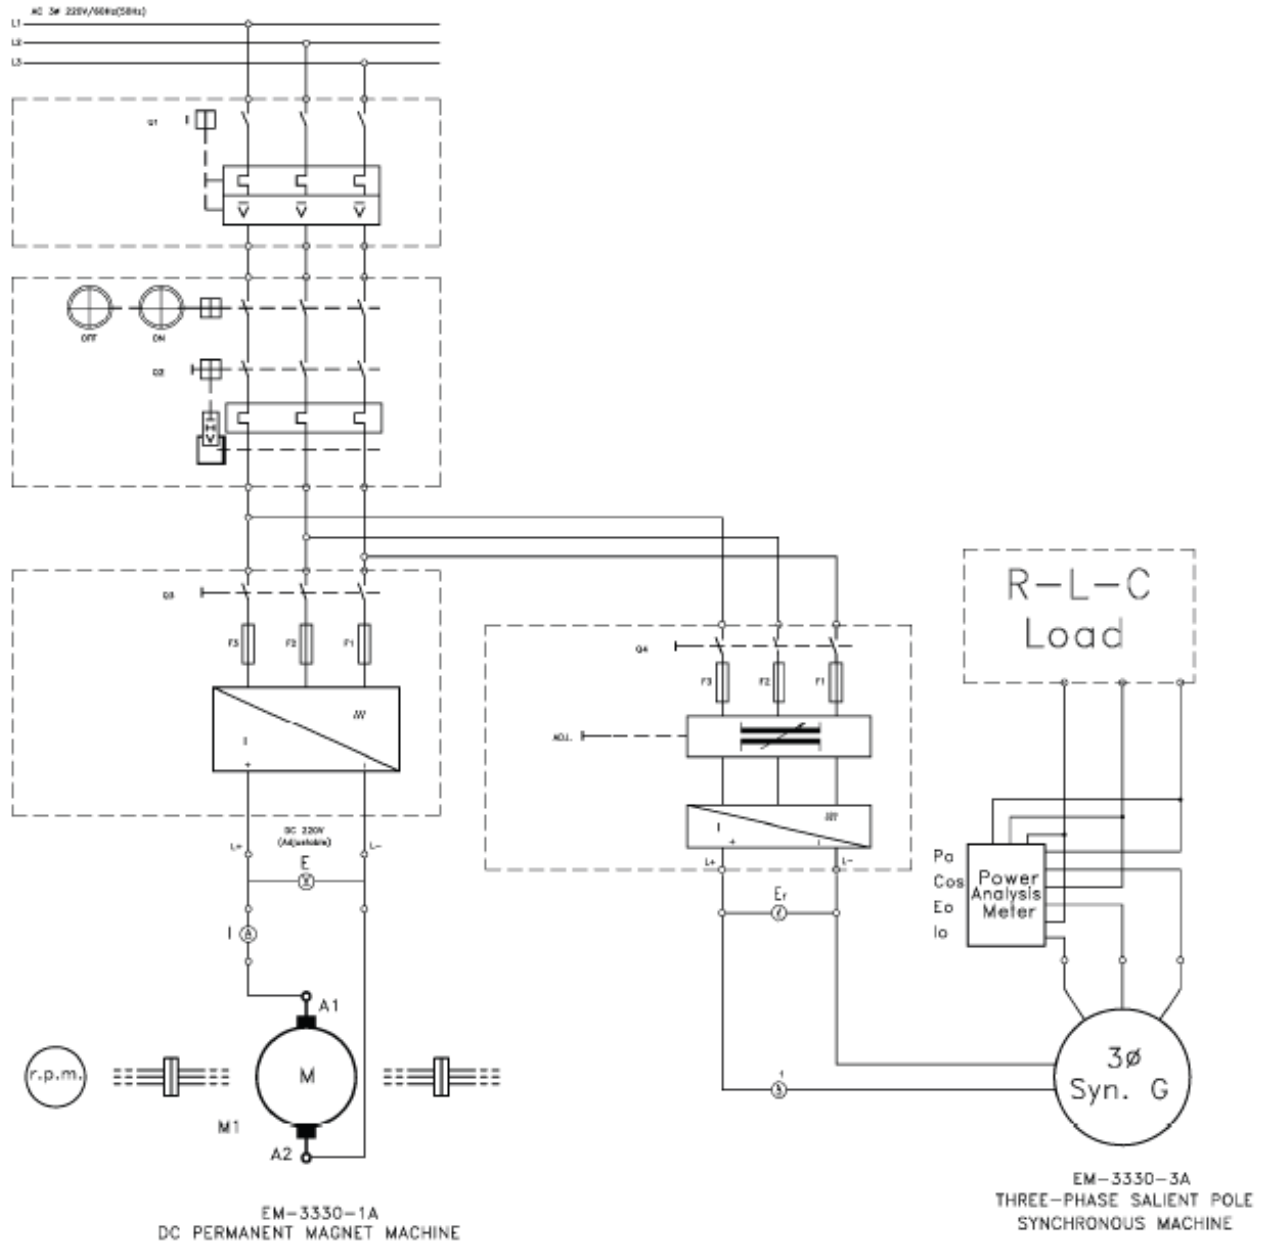
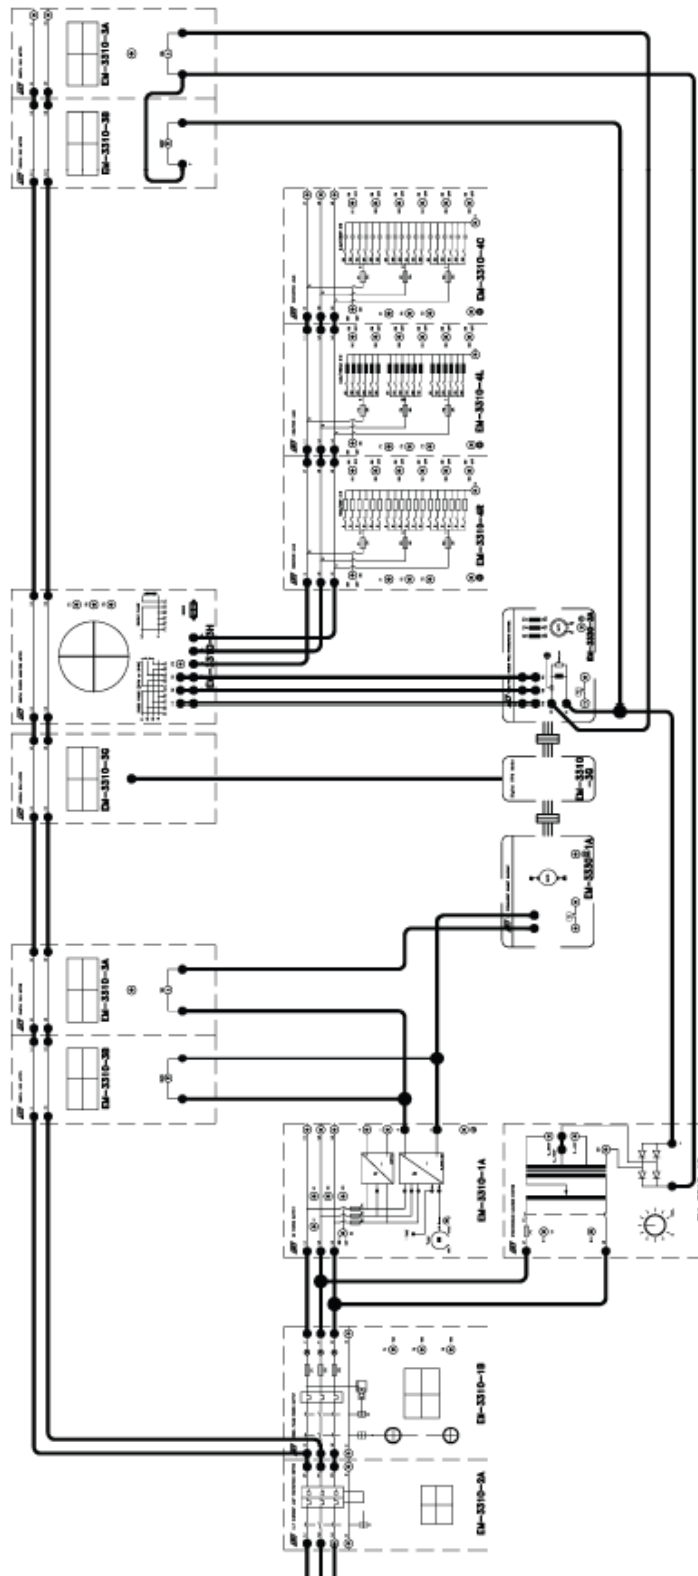

Fig. 15-5-1 Circuit diagram for excitation characteristic test
Fig. 15-5-2 Connection diagram for excitation characteristic test
1. Place the DC Permanent-magnet Machine, Three-phase Salient Pole Synchronous Machine, and Digital RPM Meter on the Laboratory Table. Mechanically couple the DC Permanent-Magnet (PM) Machine to the Three-phase Salient Pole Synchronous Machine and the Digital RPM Meter using Couplings. Securely lock Machine Bases using delta screws. Install the Coupling Guards and the Shaft End Guard.
2. Install the required Modules in the Experimental Frame. Construct the circuit in accordance with the circuit diagram in Fig. 15-5-1 and the connection diagram in Fig. 15-5-2. Have the instructor check your completed circuit. The synchronous generator operates in delta.